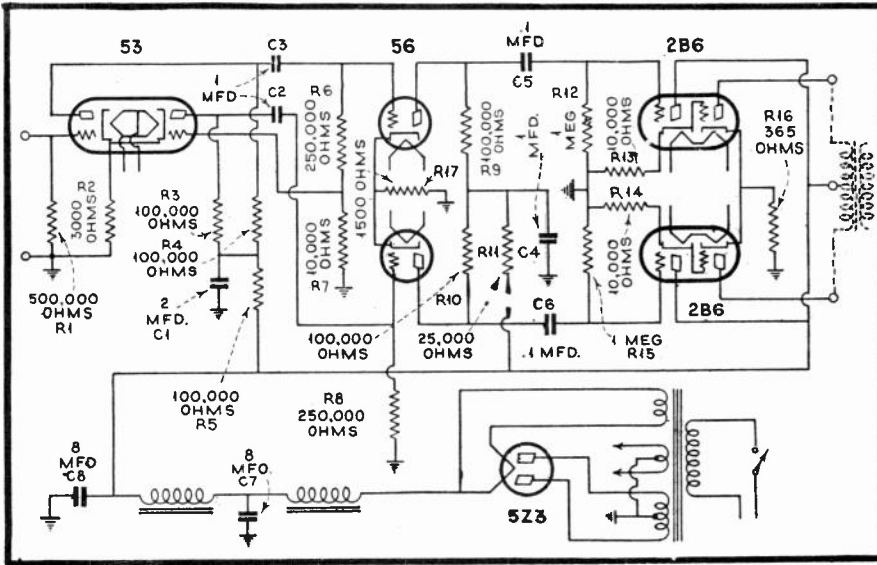

FIG. 8
IN FIG. 8 YOU ARE SHOWN THE CIRCUIT DIAGRAM OF AN AMPLIFIER WHICH IS DIFFERENT IN DESIGN FROM ANY OF THE OTHERS WHICH WERE SO FAR SHOWN YOU. HERE YOU WILL OBSERVE, THAT PUSH-PULL PERFORMANCE IS OBTAINED IN TWO STAGES WITHOUT THE USE OF INTERSTAGE COUPLING TRANSFORMERS.
IT IS A WELL KNOWN FACT THAT THE OUTPUT SIGNAL IN THE PLATE CIRCUIT OF A TUBE IS 180° OUT OF PHASE WITH THE INPUT SIGNAL; IN OTHER WORDS, THE AMPLIFYING TUBE REVERSES THE PHASE OF THE SIGNAL. NOW THEN REFERRING TO THE CIRCUIT OF FIG. 8, THE SIGNAL IS APPLIED TO THE GRID OF THE FIRST SECTION OF THE 53 — THE OUTPUT VOLTAGE APPEARING ACROSS THE PLATE CIRCUIT LOAD OF THIS FIRST TUBE SECTION AND IS TRANSFERRED THROUGH COUPLING CONDENSER C_3 THEREBY APPEARING ACROSS RESISTORS R_6 AND R_7 IN SERIES, AT THE SAME TIME ACTING UPON THE GRID OF THE UPPER 56 TUBE.
9. - WHY IN THE CIRCUIT OF FIG. 8 IS THE 53 TUBE BEING EMPLOYED AS A PHASE-INVERTER?
10. - WHAT ADVANTAGE IS OFFERED BY A CIRCUIT, SUCH AS ILLUSTRATED IN FIG. 8, OVER THE MORE CONVENTIONAL AMPLIFIER CIRCUITS.